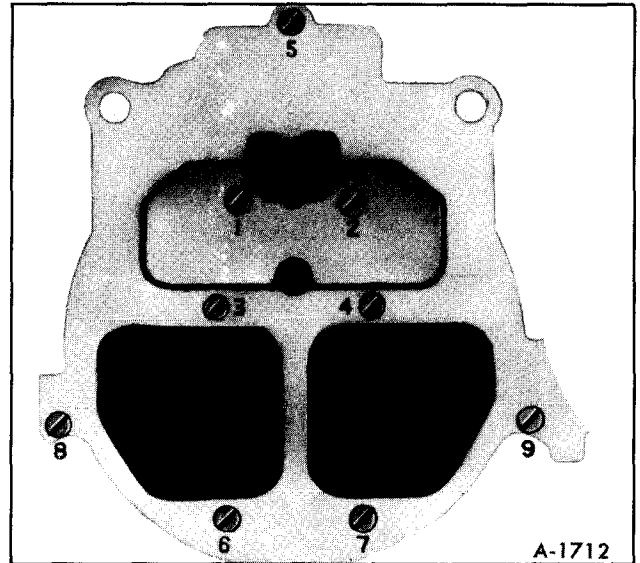

Figure 27-Air Horn Tightening Sequence
2. Install two long air horn screws, five short screws, and two countersunk screws into primary venturi area. All screws must be tightened evenly and securely. See Figure 27.